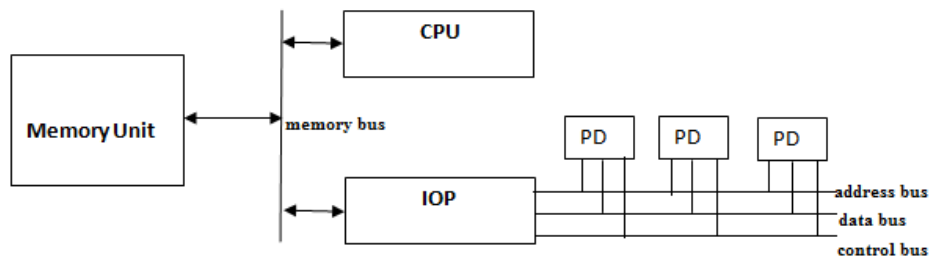

Figure 7: Interconnection of Peripheral Devices and Memory using different set of Buses
1. Different set of address, data and control buses are used to connect memory and other Peripheral Devices (PD), as shown in Figure 7. In this case a separate Input/Output processor (IOP) is required to control the peripheral devices. The memory communicates with CPU and IOP using memory bus whereas the IOP communicates with its separate address data and control bus.